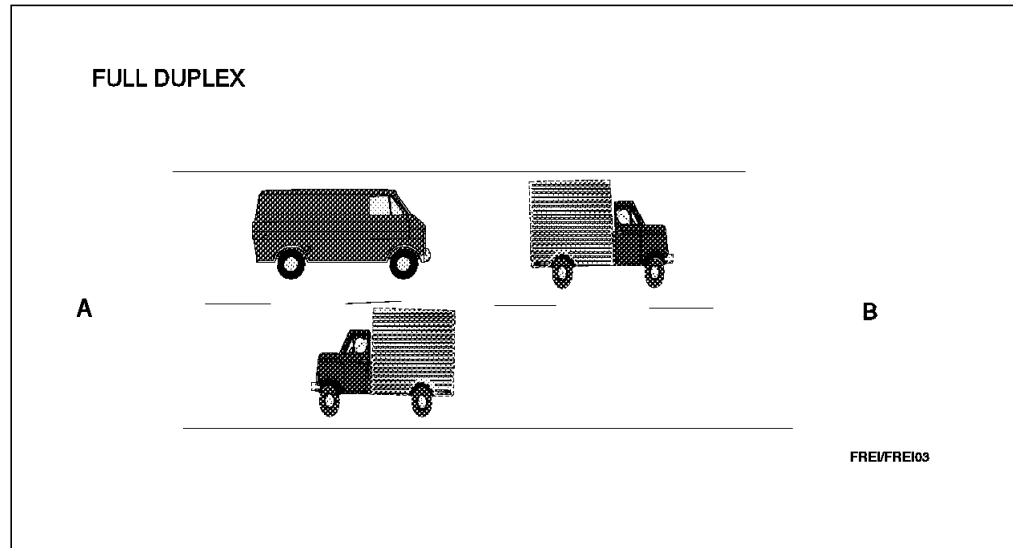

Figure 370. Full-Duplex
**Full-Duplex** Full-duplex or duplex transmission is a transmission between two stations in both directions simultaneously. A duplex line, as illustrated in Figure 370 on page 343, can transmit in both directions simultaneously. If a duplex line is used, the modems and network equipment are always ready to transmit and receive and the line turnaround is minimal.